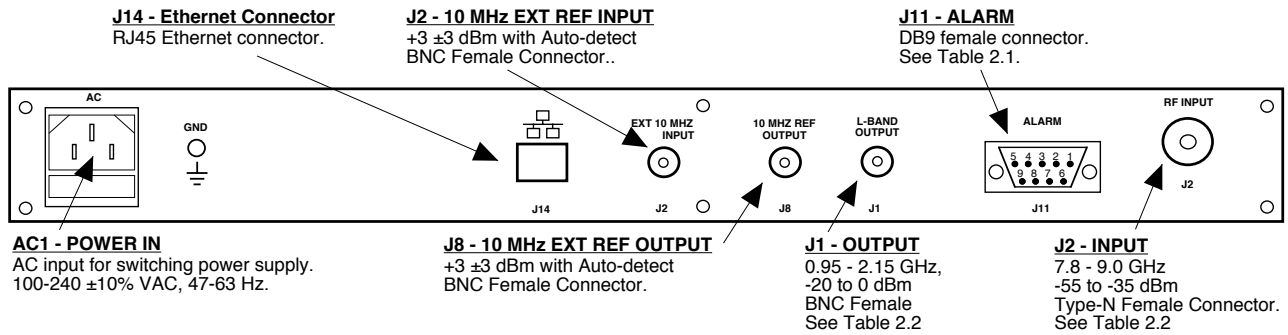

FIGURE 2.1 3116-7890 Rear Panel I/O's
Figure 2.1 shows the input and output connectors on the rear panel.
1. Connect a -55 dBm to -35 dBm signal to RF IN, J2 (Figure 2.1).